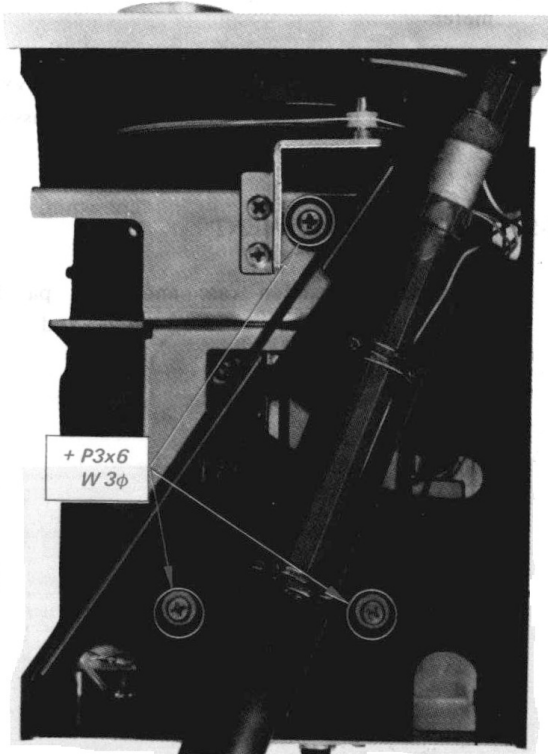

Fig. 2-5. A-m antenna ass'y removal
2. Remove the three screws (+P3x6) securing the a-m antenna assembly to the top of chassis. See Fig. 2-5.